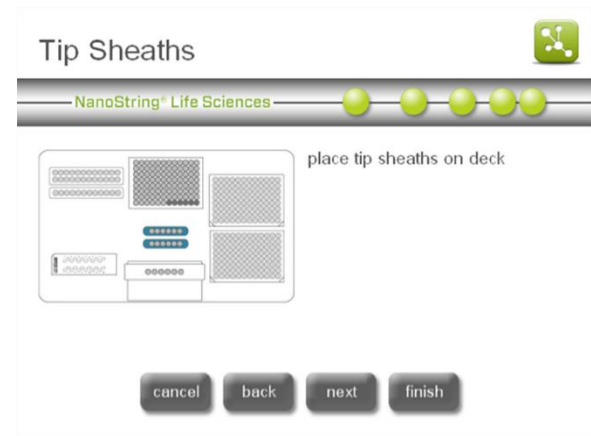

Figure 23: The 'Tip Sheaths' screen.
8. The 'Tip Sheaths' screen will appear (**Figure 23**).